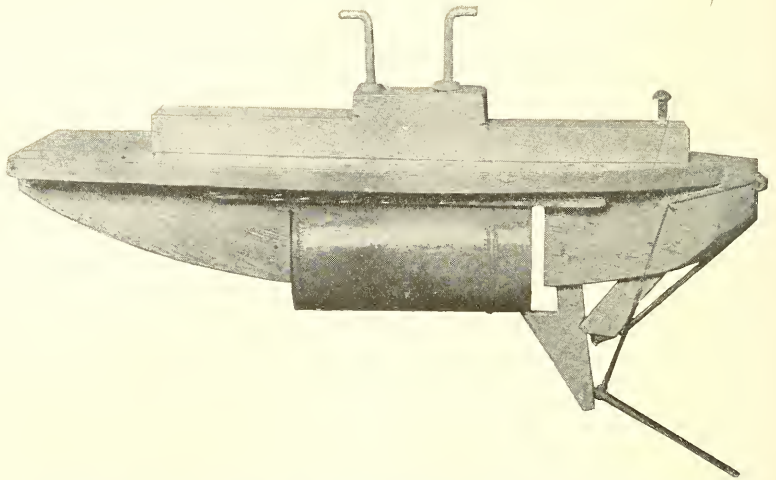
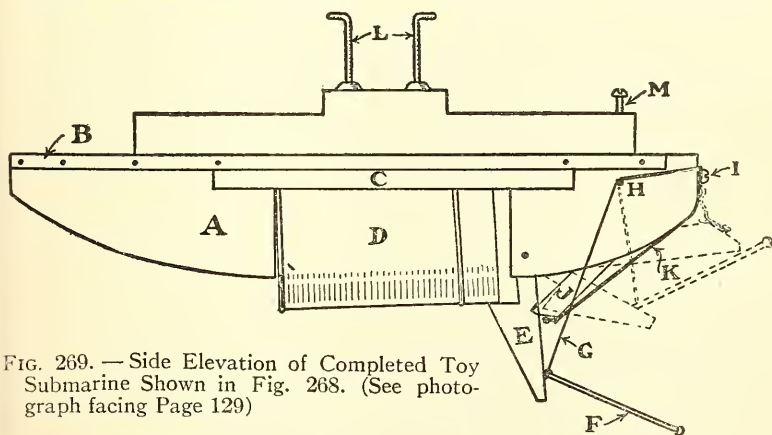
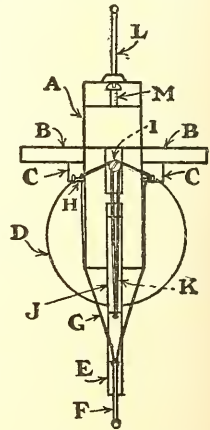
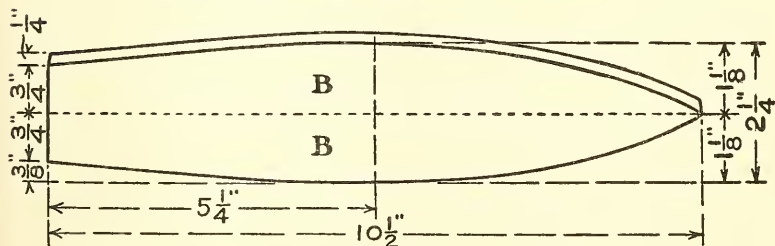

Fig. 268.—A TOY SUBMARINE THAT DIVES THEN RISES TO THE WATER'S SURFACE (See Chapter 11).
FIG. 269. — Side Elevation of Completed Toy Submarine Shown in Fig. 268. (See photograph facing Page 129)
FIG. 270.—End Elevation of Toy Submarine
FIG. 272. — Pattern for Deck Pieces
THE toy submarine described on the following pages is a model recently devised by the author. A photograph of this toy is shown in Fig. 268, on the page facing page 129, a side elevation is shown in Fig. 269, and an end elevation is shown in Fig. 270.
diagrams of Figs. 269 and 270. The central section *D* is a tin can filled with sand, for ballast. One end is supported upon a brad, the other end upon the *trigger E*. Trigger *E* is held by *catch J*, which slips into a notch cut in the edge
of *E*. Can *D* is of sufficient weight when filled with sand, to sink the submarine. When the submarine reaches the bottom of the bath-tub — a tub furnishes a good “zone” for operations — nail *F* in trigger *E* comes in contact with the tub bottom with sufficient force to throw trigger *E* out of position and release catch *J*. Catch *J* is sprung out of the way by rubber-band *K*, trigger *E* is sprung out of the way by rubber-band *G* (see dotted lines in Fig. 269), and can *D* is released. Relieved of its ballast, the submarine rises to the surface. To make the boat dive again, it is but necessary to attach the tin can and reset the trigger.
The Hull and Upper Decks (A), which are made in one piece. Radii for describing the arcs for the bow and stern of the hull are not given, because after you have located the points for the beginning and end of these curves, as shown, you can easily draw them free-hand. The cutting can be done with a saw and chisel. Cut the ends of the pocket for the tin can weight with a saw, then split out the wood between the saw cuts, or *kerfs*, with a chisel. Taper the sides of the bow as shown in Figs. 268 and 273.
Figure 272 shows a pattern for deck pieces *B*. Lay these out in one piece, as indicated, cut out the piece, saw it in half, and nail the halves to the sides of block *A* in the positions shown (Figs. 269, 270, and 274).
Strips *C* (Fig. 269) are fastened each side of block *A* (Fig. 270), directly below deck pieces *B*, to complete
Figure 269 and Figs. 273 to 277 explain the assembling and adjustment of the trigger and catch blocks, also of the rubber-bands for springing them. Rubber-band *G* extends from contact nail *F* to a screw *I* in the bow (Figs. 273 and 276). To keep it from interfering with rubber-band *K*, which extends from a brad in the lower end of catch *J* to screw *I* (Figs. 273 and 277), rubber-band *G* is run up and over a pair of brads (*H*) driven into block *A* upon opposite sides, then over to screw *I* (Fig. 273).
Periscopes. Two brass screw-hooks 2 inches in length (*L*, Fig. 269) answer the purpose. Screw a round-head screw (*M*, Figs. 269 and 273) into the bow end of the second deck.